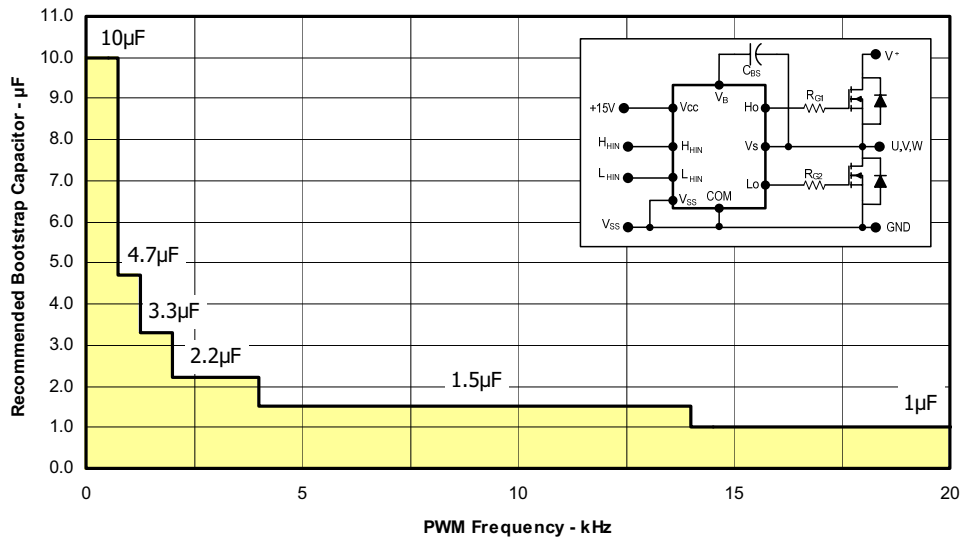

Figure 12. Recommended Bootstrap Capacitor Value vs. Switching Frequency
3. Value of the boot-strap capacitors depends upon the switching frequency. Their selection should be made based on IR design tip DN 98-2a or application note AN-1044 or Figure 12.